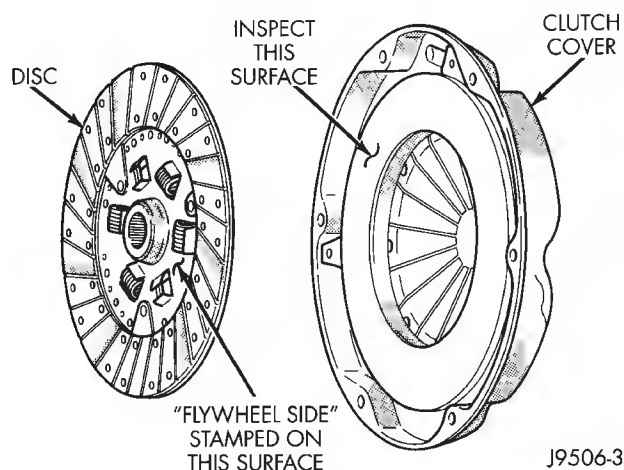

Fig. 2 Clutch Disc And Pressure Plate Inspection
(1) Remove transmission. Refer to procedures in Group 21.
(2) If original clutch cover will be reinstalled, mark position of cover on flywheel for assembly reference. Use paint or a scribe for this purpose.
(3) If clutch cover is to be replaced, cover bolts can be removed in any sequence. However, if original cover will be reinstalled, loosen cover bolts evenly and in rotation to relieve spring tension equally. This is necessary avoid warping cover.
(4) Remove cover bolts and remove cover and disc (Fig. 2).
(4) Position clutch disc on flywheel. Be sure side of disc marked flywheel side is positioned against flywheel (Fig. 2). If disc is not marked, be sure flat side of disc hub is toward flywheel.
(5) Inspect condition of pressure plate surface of clutch cover (Fig. 2). Replace cover if this surface is worn, heat checked, cracked, or scored.
(7) Insert alignment tool in pilot bearing and position disc on flywheel. Be sure disc hub is positioned correctly. Side of hub marked Flywheel Side should face flywheel (Fig. 2). If disc is not marked, place flat side of disc against flywheel.